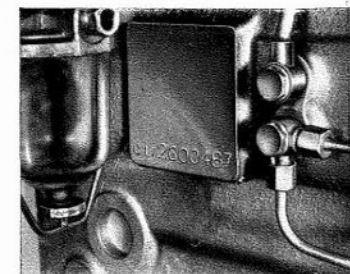

Fig. B.2.
2. On a facing midway along the camshaft tunnel, adjacent to the fuel lift pump. See Fig. B.2.